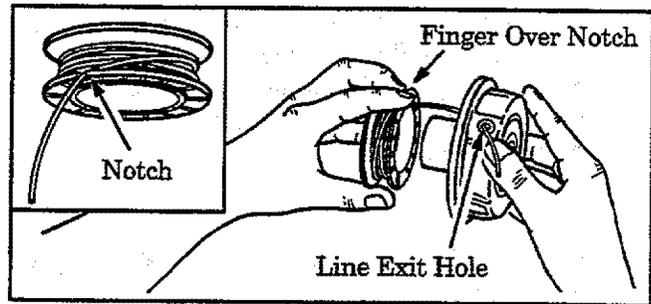

Figure 18
- e. Catch the line in the notch in the spool. Figure 18 (inset). Leave about 4 inches of line hanging from the spool.
- f. Place your index finger over the line and notch as shown in Figure 18 . Insert the end of the Line in the Line Exit Hole. Figure 18 .
- g. Align the line and notch with the Line Exit Hole. Figure 18. Place Spool in Hub. Make sure the Trimmer Line is not caught between the rim of the Spool and the Hub.